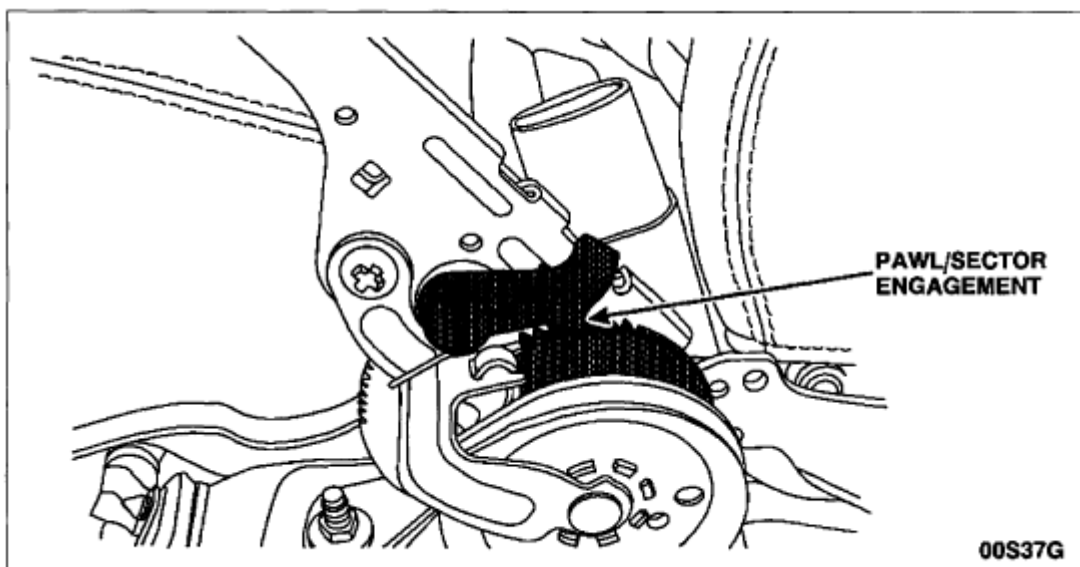

FIGURE 7
5. Apply and release the parking brake control four (4) times, ending with the lever pulled up to its maximum apply position. Make sure the self-adjust pawl tooth fully engages the sector gear (the paw tooth must not be "perched" between two teeth of the gear). See Figure 7.